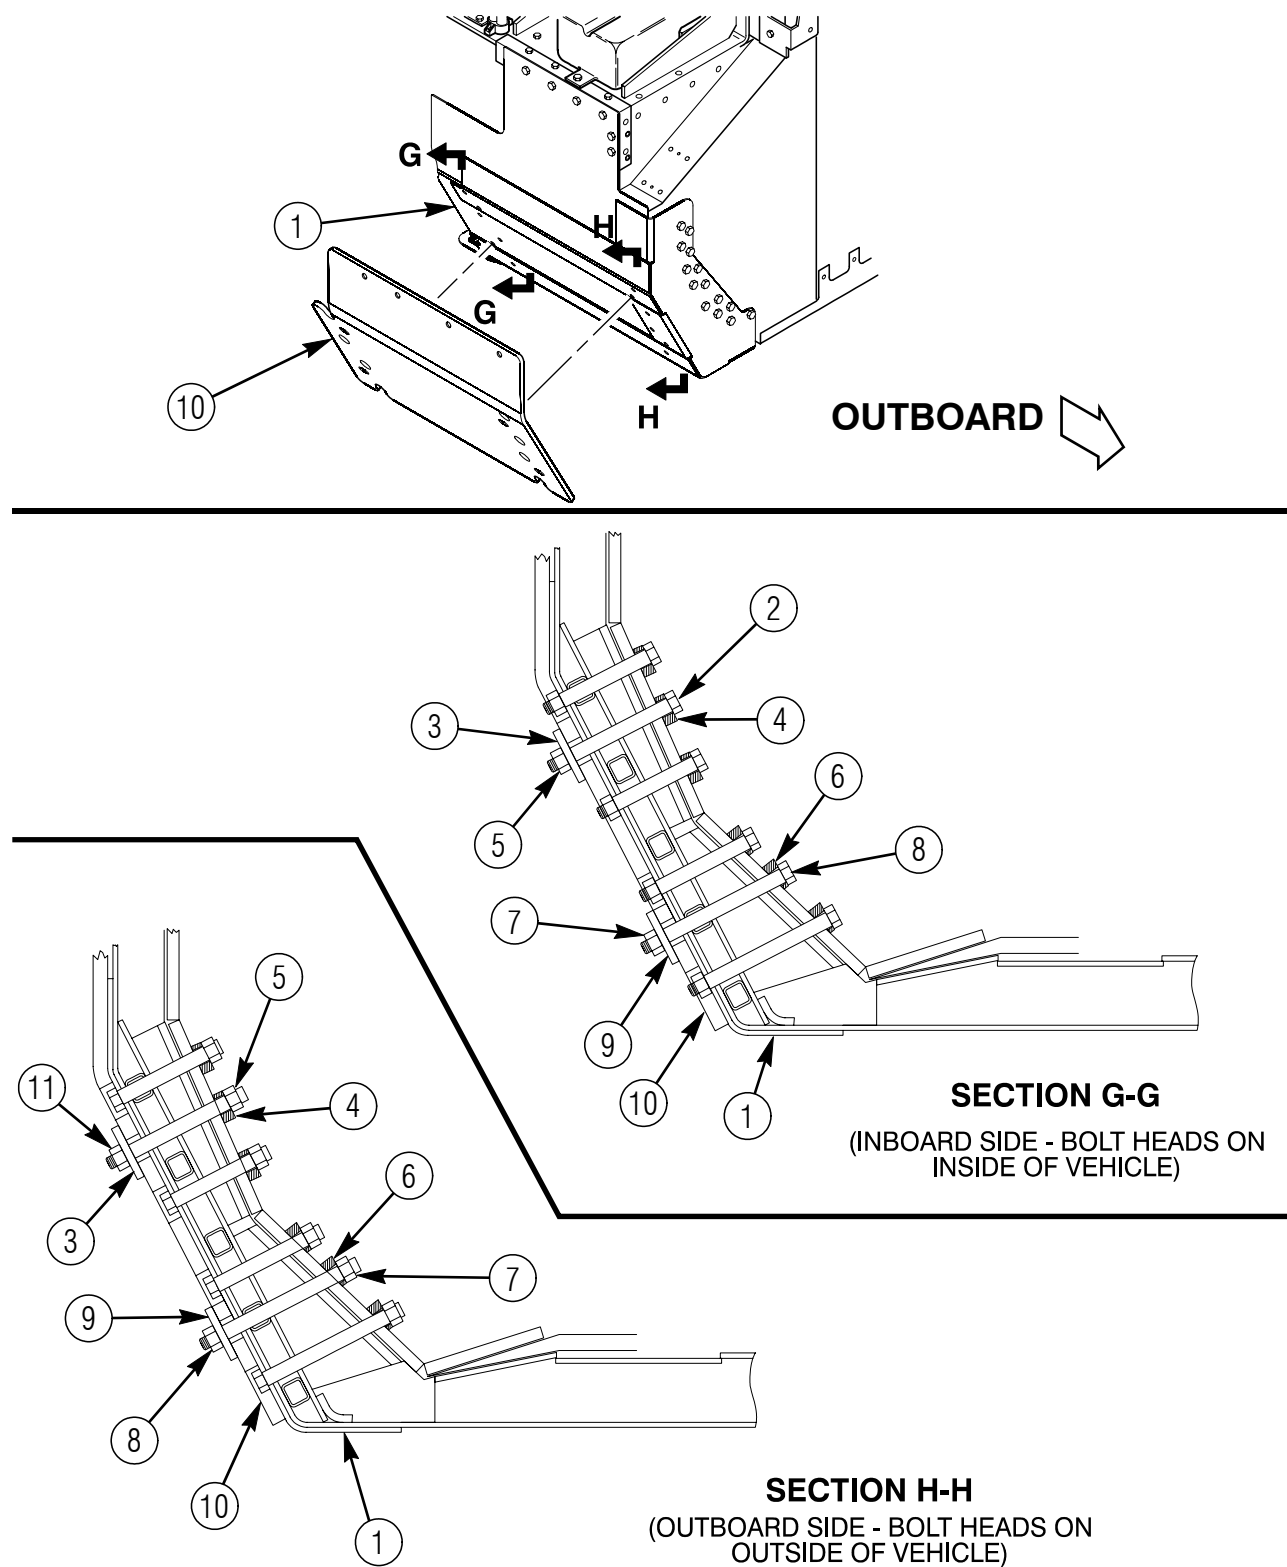

Figure 6.
- a. Place 6434836-01M1 or 6434836-200M1 left front underbody wheelwell armor (10) on front wheelwell section of left front underbody (1) and install two 4397000-074 capscrews (2 and 11), two 6434369-01M1 or 6434369-200M1 or 6434369-400M1 ballistic washers (3), two existing upper kick panel wedge spacers (4), and two 4397064-005 locknuts (5) as shown in figure 6. Do not tighten locknuts (5) at this time.
- b. Install two 4397000-076 capscrews (8), two 6434369-01M1 or 6434369-200M1 or 6434369-400M1 ballistic washers (9), two existing lower kick panel wedge spacers (6), and two 4397064-005 locknuts (7) as shown in figure 6. Tighten four locknuts (5 and 7) to 37 lb-ft (50.2 N·m).